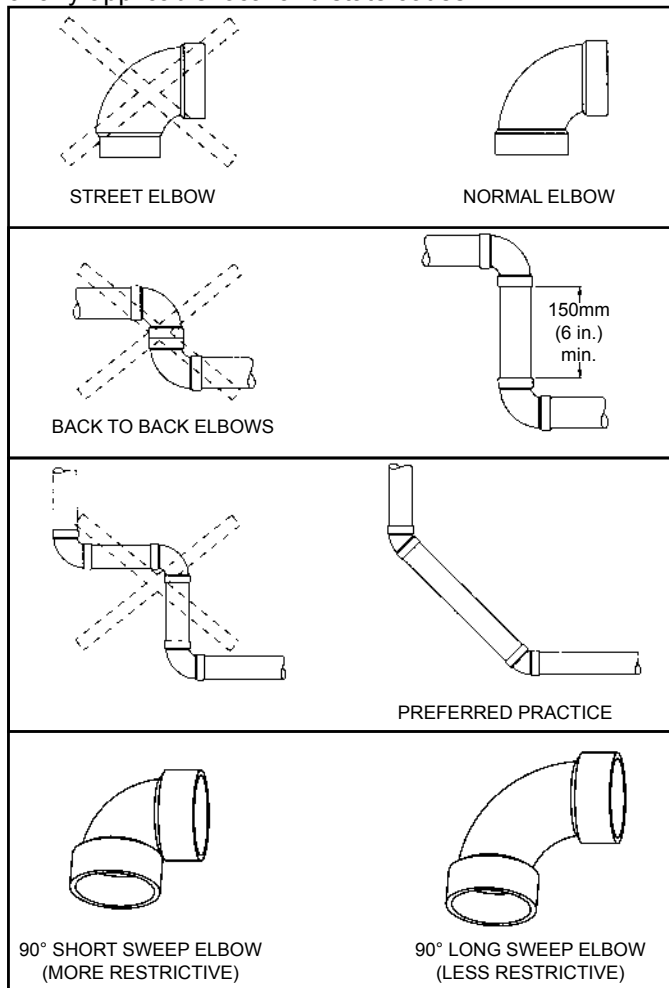

Figure 25
Note: The information provided in Figure 25 is intended as a guideline for good vent installation practices only and is not intended to restrict venting options beyond those restrictions established by the current edition of the “**Natural Gas and Propane Installation Code**” B149.1 or any applicable local and state codes.
3. Avoid using 90 degree elbows "back to back" and do not use street elbows. Maintain a minimum 150mm (6 in.) straight section between elbows. Closely coupled and short radius elbows reduce the venting capacity. Figure 25 shows examples of vent pipe connections.